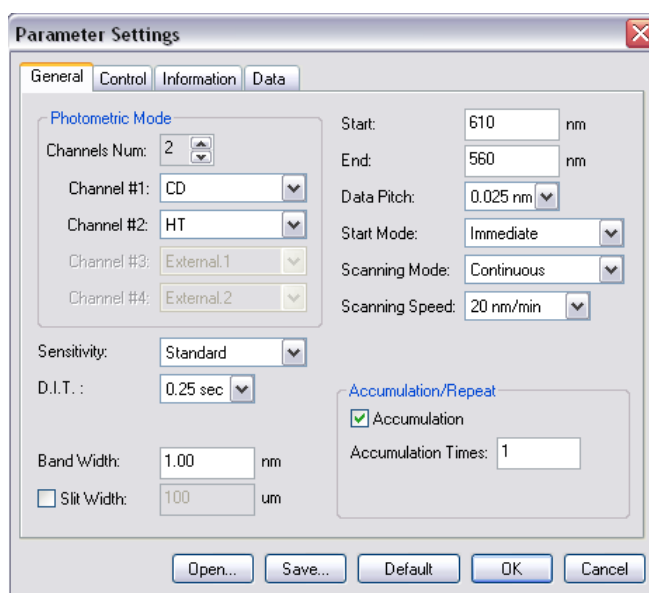

Figure. 4.8 Measurement parameters (wavelength accuracy check)
- (1) Start up the Spectrum Measurement program.
- (2) Select the [Parameters...]/[General] command from the [Measure] menu, and set the measurement parameters as shown in Fig. 4.8.
- (3) Mount the neodymium glass sample in the sample compartment.
- (4) Select the [Measure]/[Sample] command from the [Measurement] menu in order to perform a measurement (it is not always necessary to perform a baseline measurement).
- (5) Using the spectrum analysis program, verify that the peak wavelength of Channel 2 (Fig. 4.8) of the measurement data is 586 ± 0.8 nm. If the peak wavelength does not fall within this range, adjust the instrument according to the following procedure.